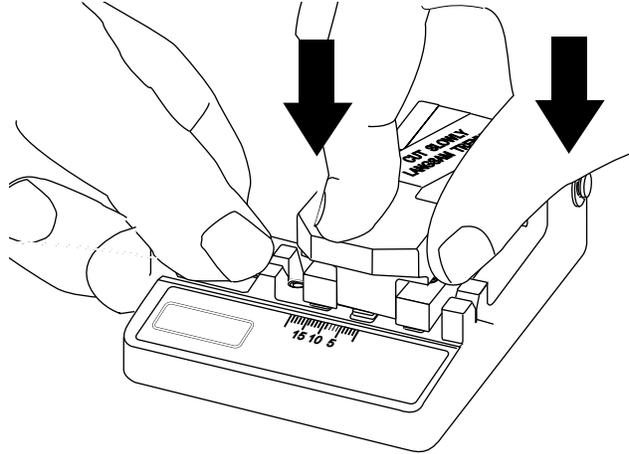

Figure 4
4.8 Push down on the cleaver with a *slow and gentle motion* until you hear a click — the fiber is now cleaved (Figure 4).
4.14 Push down on the cleaver with a *slow and gentle motion* until you hear a click – the fiber is now cleaved (see Figure 4).